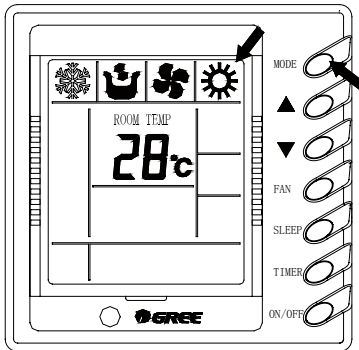

Fig.18
6.6 Setting of the running mode (Fig.18)